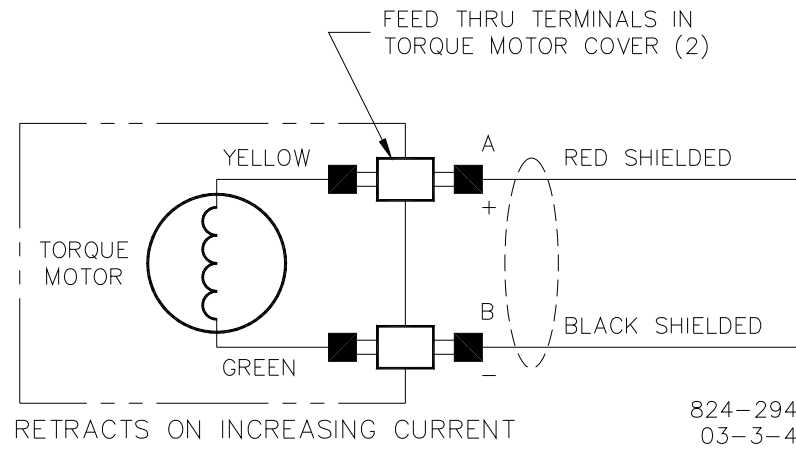

Figure 2-1. Actuator Wiring
**Do not connect any cable grounds to “instrument ground”, “control ground”, or any non-earth ground system. Make all required electrical connections based on the wiring diagram (Figure 2-1).**